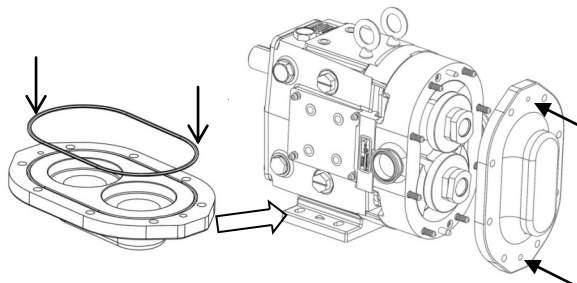
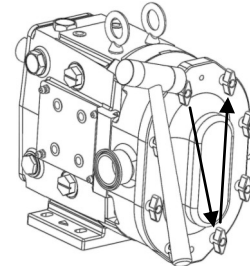

Figure 57: Installing Cover O-ring and Cover
Figure 58: Tightening Cover Wing Nuts
3) Install the new cover o-ring and slide the cover over the studs making sure that the dowels in the body are aligned with the correct dowel holes in the cover (Figure 57). Visually inspect to ensure that the cover o-ring remained in place. Turn the wing nuts (clockwise) by hand and fully tighten them by striking them with a soft mallet. Tighten the wing nuts in an opposing manner as seen in Figure 58, so that the cover is evenly tightened to the body.